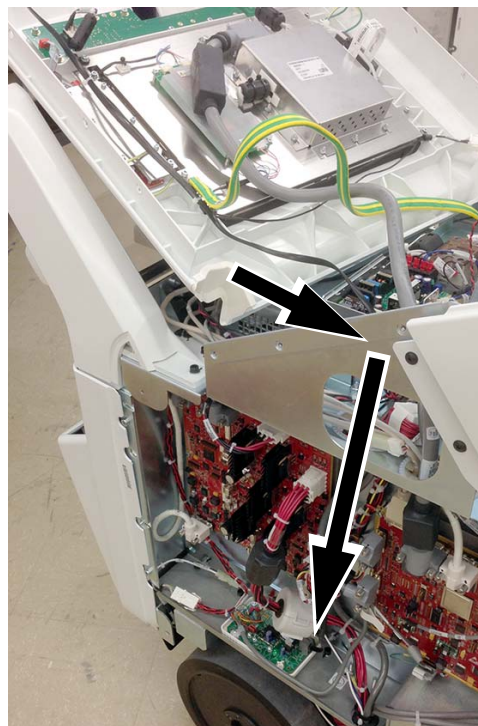

Figure 2-17 Route cable to PCB Module
17. Continue routing the cable along the side of the PC and down through the hole in the sheet metal of the Thorax and between the Locust and Spyder boards. Plug the cable into the connector on the PCB Module. See Figure 2-17. Zip tie the cables as necessary.